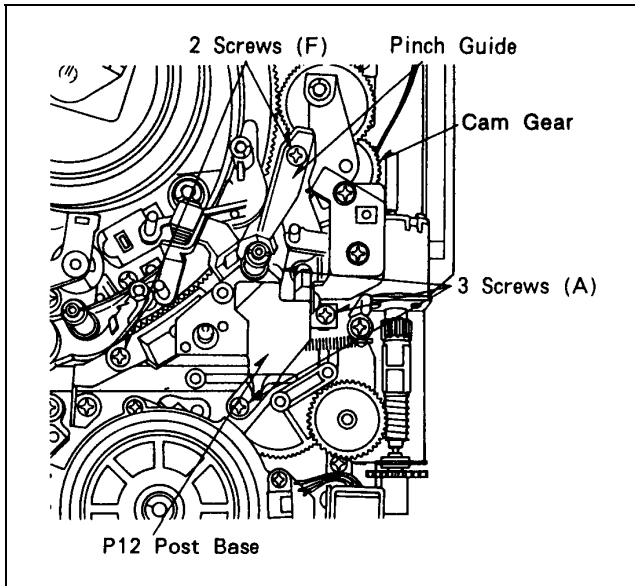

Figure 7-19-1 Cam Gear Removal (1)
2. Remove 3 screws (A) and P12 Post Base as shown in figure 7-19-1.
5. Unscrew 2 screws (F) and remove Pinch Guide (Plastic) as shown in figure 7-19-1.